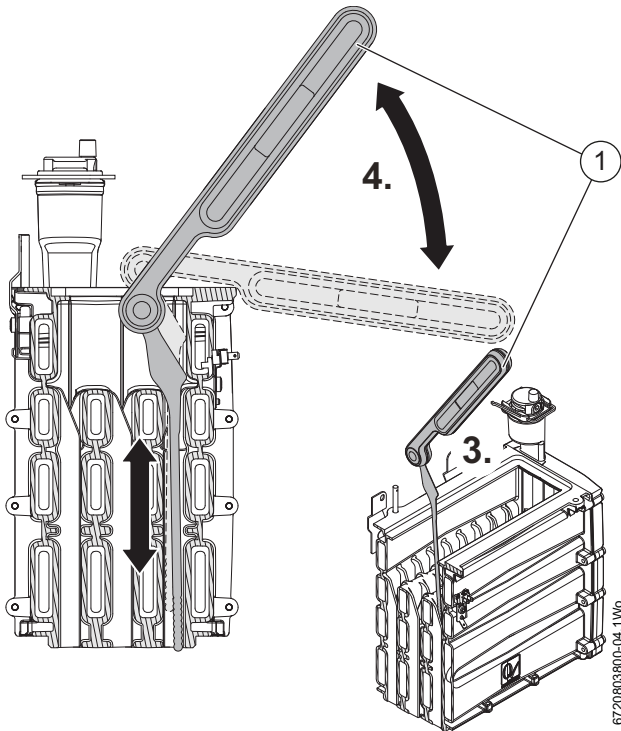

Fig. 81 Cleaning the front channels
3. Orient the cleaning tool (2) as shown in figure 81 and insert the tool into the front channel for cleaning.